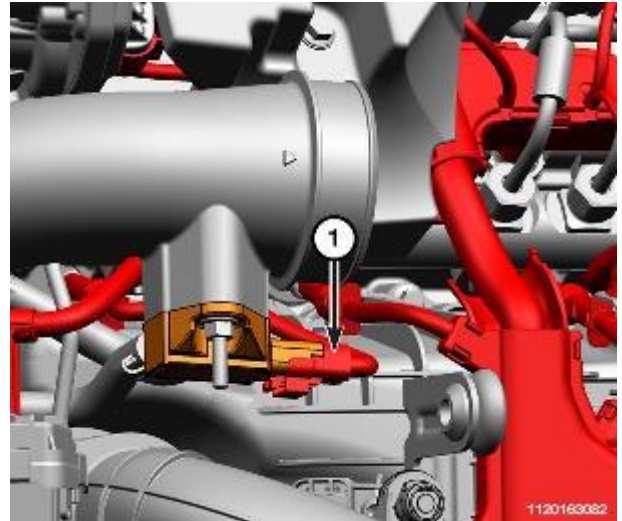

Figure 111 – Pressure Sensor Connector
- 37. Disconnect the differential pressure sensor wire harness connector (1) (Figure 111).